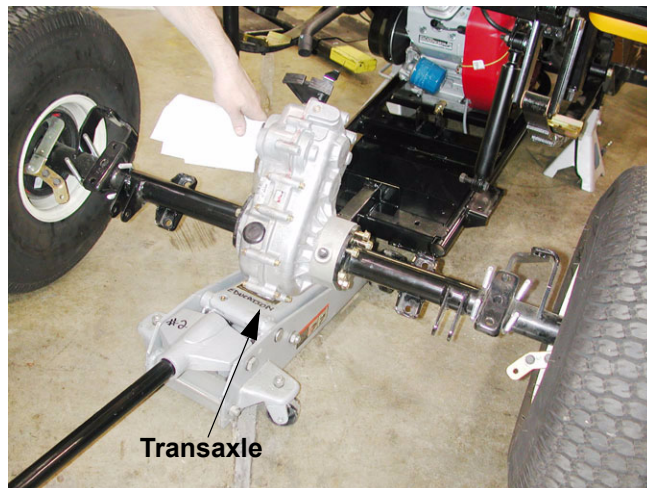

Figure 7.32
7.32. Lower the jack completely, tip the front of the transaxle up so that the housing clears the hitch receiver gusset on the cradle, and roll the transaxle clear of the cradle on it's own two wheels. See Figure 7.32.